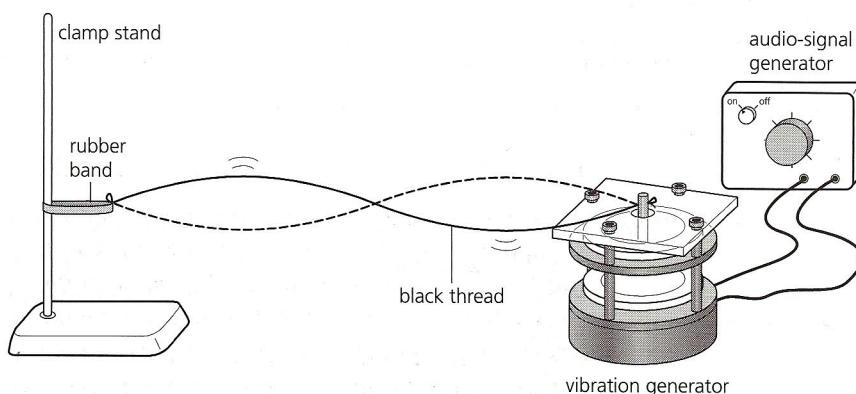

Figure 12.6
- Tie one end of the thread to the vibration generator and the other to the rubber band that has been hooked over the clamp stand (see Figure 12.6).